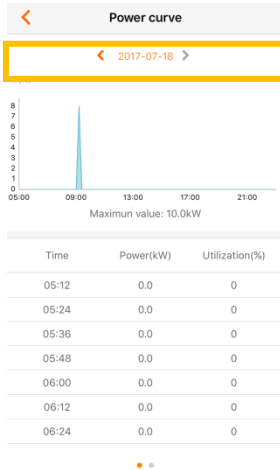

Fig. 10-10 Power curve
Step 2 Click the “Power Yields Records” to view the power curve page as shown in Fig. 10-10.